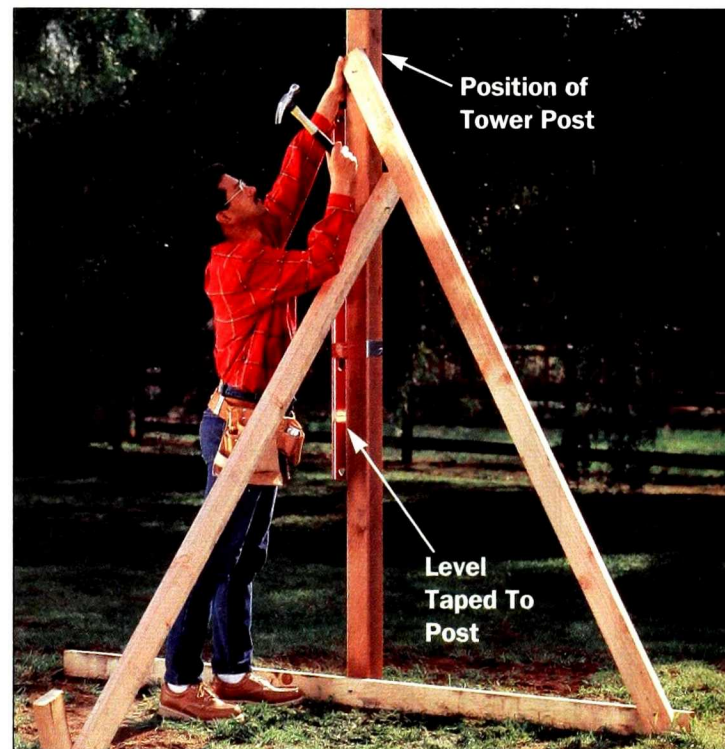

Figure 2: Brace the first post so it's plumb. Use screws or duplex nails for easy disassembly, and don't cut the posts to length yet.
- Set one corner post in its hole, and brace it plumb with two diagonal braces nailed to stakes in the ground (Figure 2).